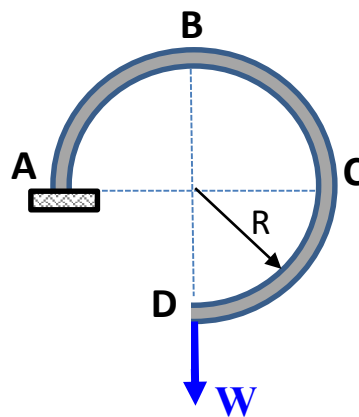

Figure 2
- (ii) Calculate the applied force  $P$  in newton (N), if the bar dimension  $L = 1.0$  m, the angle,  $\theta = 60^\circ$ , the spring stiffness,  $k_1 = 1000$  N/m and  $k_2 = 1000$  N/m respectively. (2 marks)
- (b) A cantilevered curved beam (A-B-C-D) is subjected to a load,  $W$ , at the free end (D) as shown in Figure 2. Using the Unit Load method (consider only bending effects and state clearly your datum), determine the following: